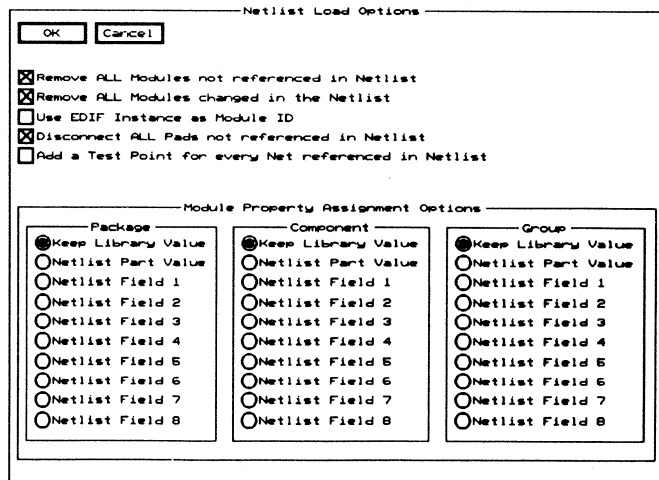

Figure 6-2. The Netlist Load Options dialog box.
6. Select TUTOR386.NET from the Files list box, then select OK. The Netlist Load Options dialog box (figure 6-2) displays.